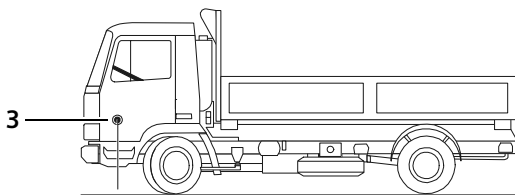

Fig. 4: Positioning the marker rod
- In order to ensure that the marker rod (3) has a secure hold on the vehicle moisten the suction cup of the marker rod and attach it to a clean part of the chassis as illustrated in fig. 4.